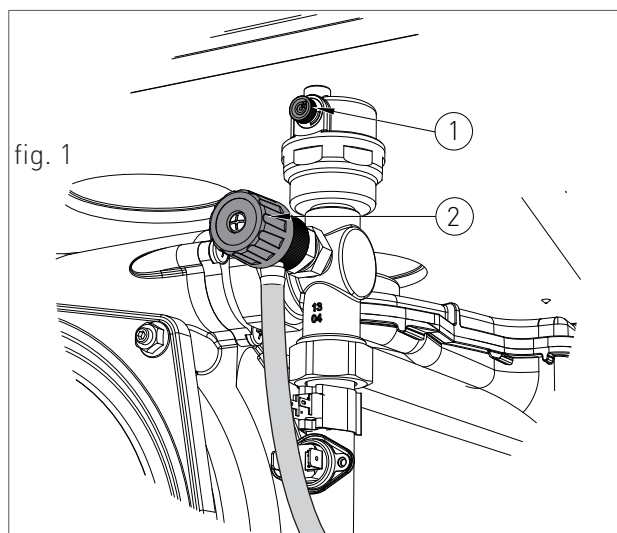

fig. 1
1. slightly loosen the cap of the jolly valve placed on the top of the condensing block to release the air from the top of the system (1-fig.1);
3. connect a rubber pipe to the draining tap placed on top of the condensing heat exchanger (2-fig.1);
- › Unscrew the screw "P" (fig. 1), extract the siphon and fill it with water up to the highest point "T" (fig. 1);